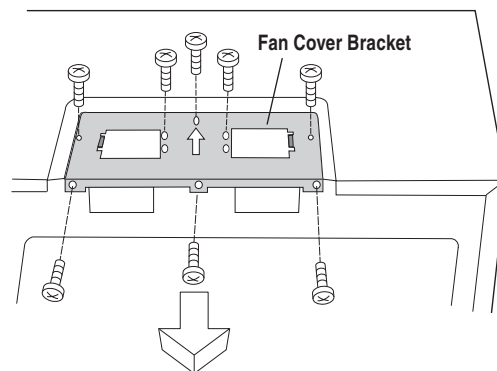

Figure 7
1. Remove 3 screws from back edge and 5 screws from the top of Fan Cover Bracket. Save 3 screws to use them to attach Exhaust Damper Assembly to the wall later and discard remaining 5. Remove Fan Cover Bracket by sliding it in the opposite direction of the arrow on the Fan Cover Bracket, as shown in Figure 7.